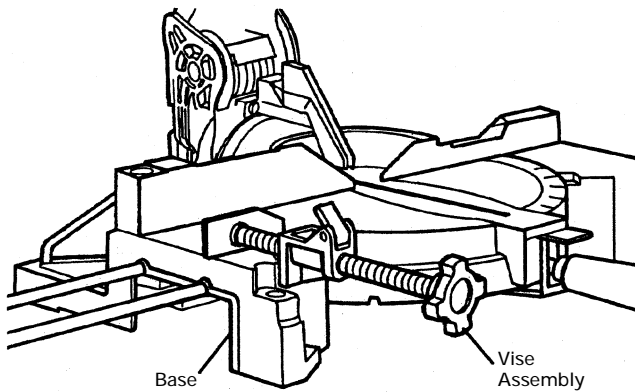

Fig. 20
- (1) The vise assembly can be mounted on either the left side base or the right side base, and can be moved back and forth according to the width of the workpiece. Insert support of vise assembly into the hole located on either the left side base or the right side of the base as shown in Fig. 20.